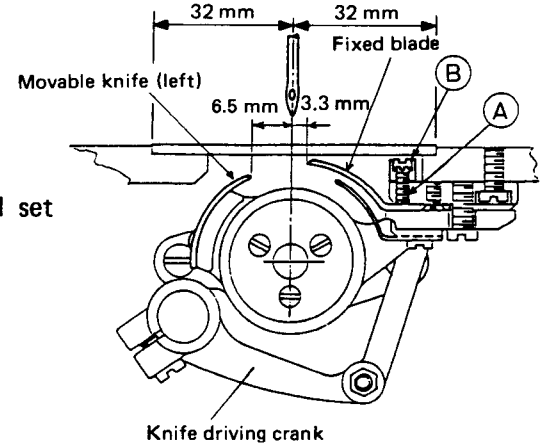

Fig. 12
(1) Positions of movable knife (left) and fixed blade
- ① Fig. 12 shows the standard state, with the feed dial set to zero.